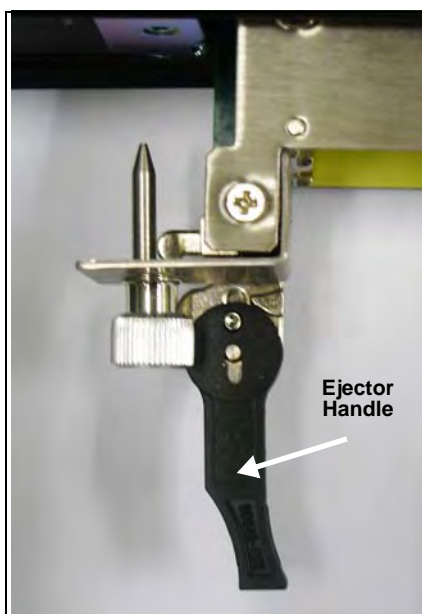

Figure C.26 - G10 IIC Ejector Handle (Left)
1.	Position the left and right ejector handles as shown in Figure C.26 .